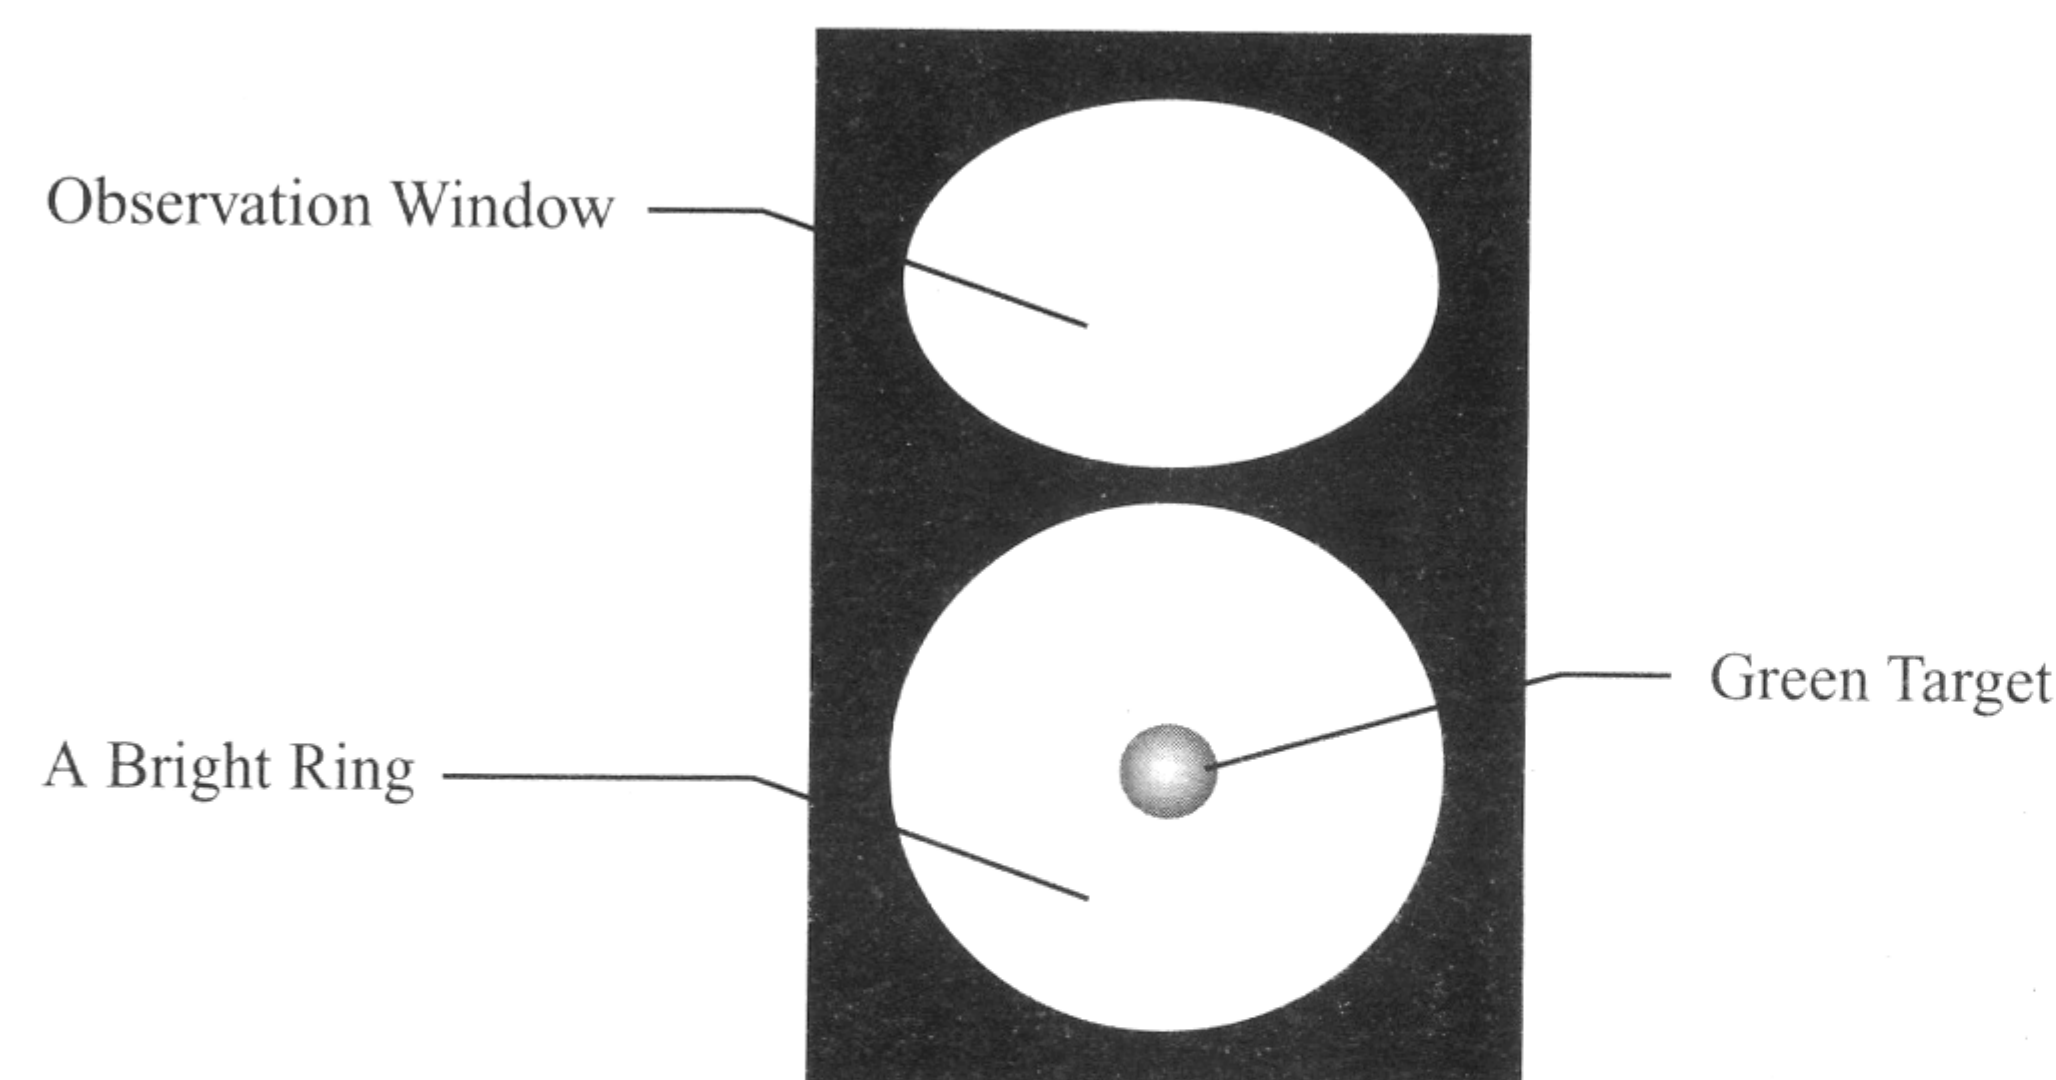

Fig.5
3.4 Viewing from the Observation Window (as shown in Fig.5)